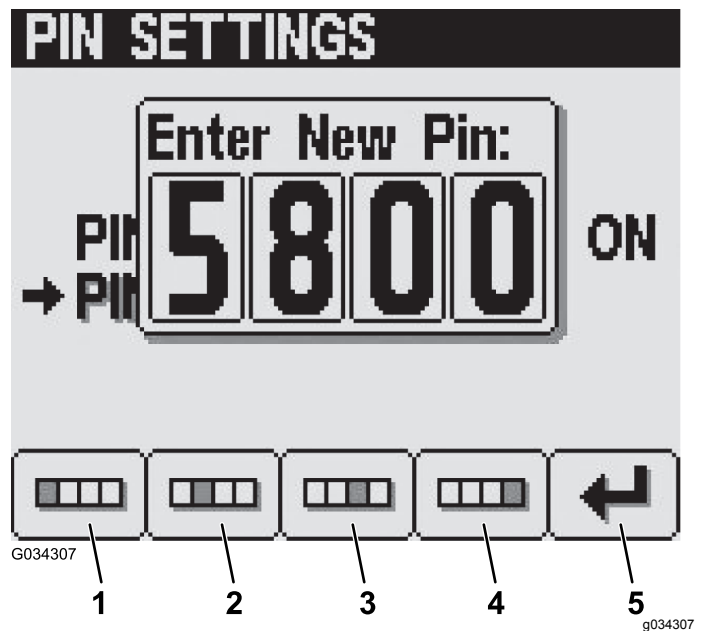

Figure 29
5. Enter your new PIN using buttons 1 to 4 and press button 5 when you complete your new PIN (Figure 29).